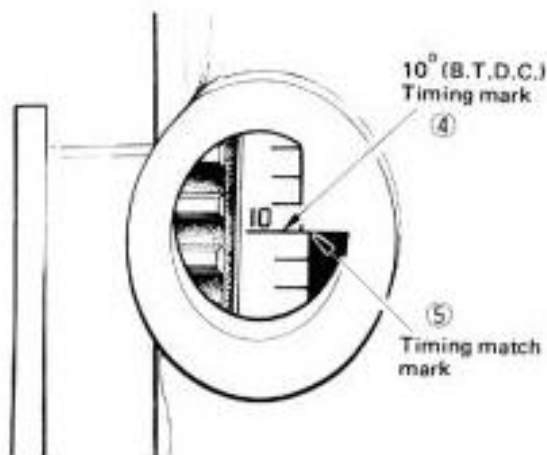

Fig. 8-18
If mark ④ is in register with the mark ⑤ on transmission case, the ignition is timed correctly. See Fig. 8-18.